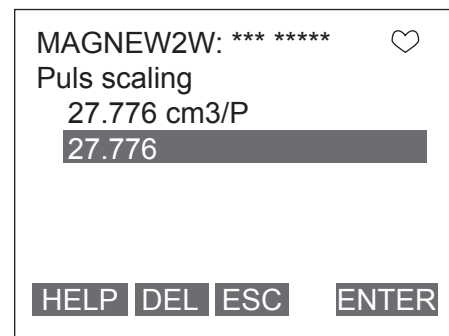

Fig. 7-28.
2. Once the display as shown Fig. 7-28. appears, move the arrow key up or down to select a sensitivity. After marking a selection, press F4 (ENTER). OFF, HIGH, MID, LOW, LL, or LLL can be selected. If F3 (ESC) is pressed here, the selection is canceled and the display returns to the Noise immunity menu.